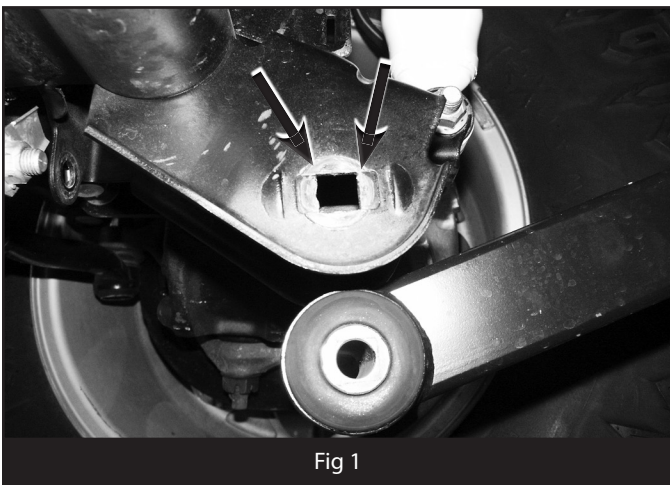

Fig 1
5. The OE lower control arm mounts are perforated from the factory so that they can be changed to slots for the alignment cams. The perforated sections must be removed to accept the new cam bolts supplied in this kit. Special tools are made to perform this operation but are not necessary. The perforated sections can be removed with a rotary grinding tool, chisel or a combination of both. (Figure 1)